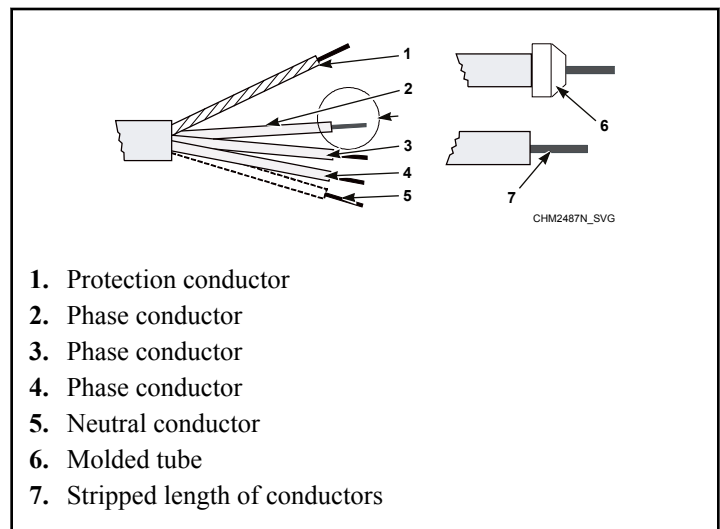

Figure 24
2. Strip the conductor ends. Refer to *Figure 24* . The protection conductor must be longer so it can be routed to the machine without tension.